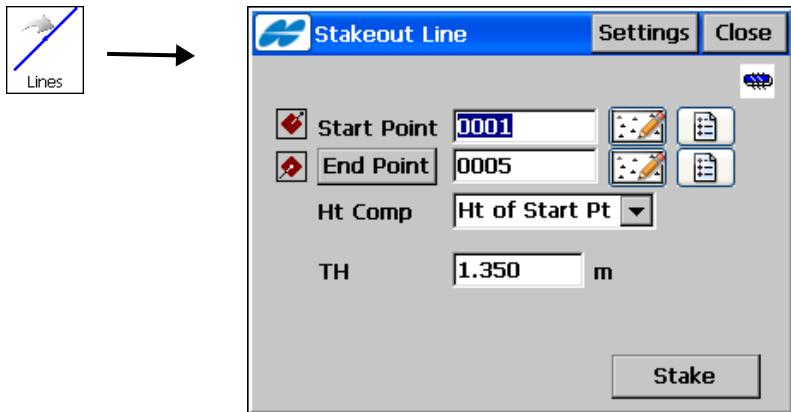

Figure 10-10. Stakeout Line
To stakeout a line, select the **Lines** icon. The **Line** screen (Figure 10-10) contains the initial data for the line stakeout.
- **Close** – returns to the *Stake Line* screen (Figure 10-10 on page 10-10).